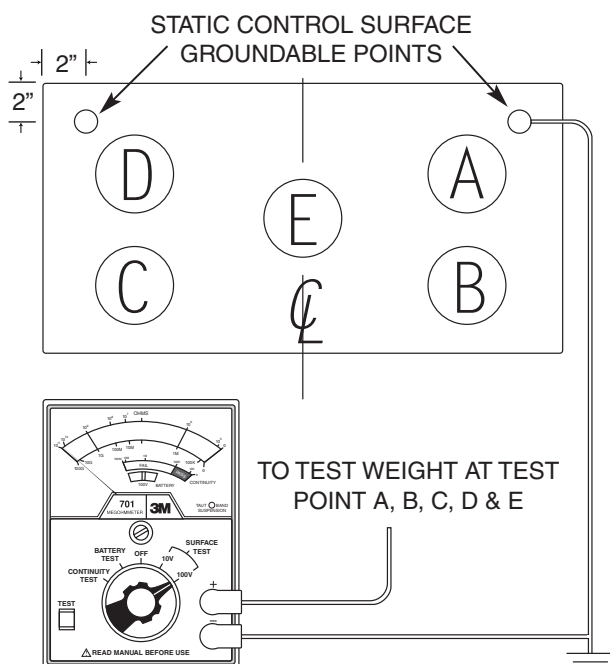

Figure 5-1: Periodic Performance Tests of Installed Surfaces
and attach the leads as shown in the appropriate sketch figures 5-1 through 5-5. Set the Main Selector Switch to the desired SURFACE TEST voltage. Place the test weight(s) on the surface to be tested and connect the test leads. Press TEST for 15 seconds and then read the resistance from the OHMS scale. After all readings have been completed, return the Main Selector Switch to the OFF position.
- B. Set the Instrument on a table top or other stable surface and place a test weight at the desired test point as shown in Figure 5-1. Connect the test leads to the meter using the right angle banana plugs at the meter. Then connect one of the test leads to the test weight and the other to the ESD GROUND using one of the supplied clips.